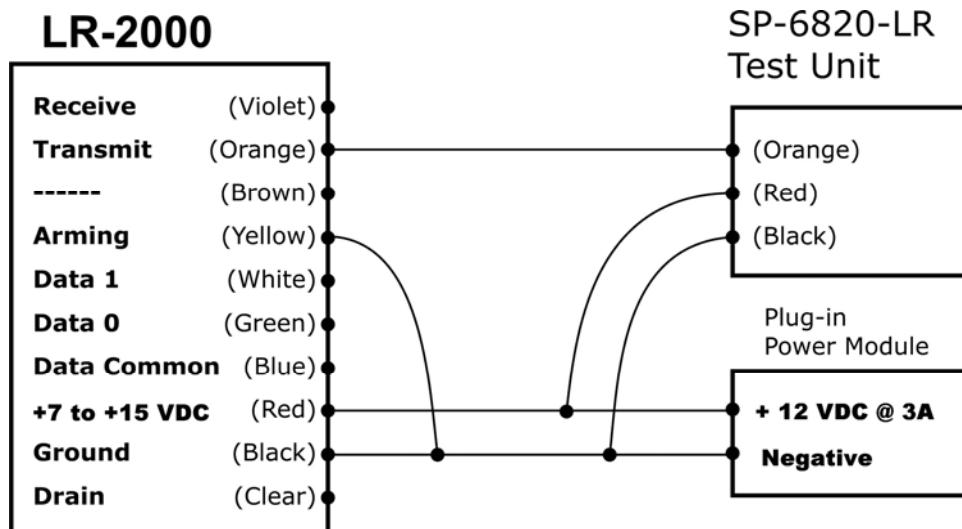

Figure 2. Wiring for quick test.
- Wiring diagram, Figure 2 (below)
- Connect the wires as shown in the wiring diagram, Figure 2 (below).
This step should be taken before the credentials are installed in or on the vehicles. From the LR-2000KIT Test & Set-up Kit, use the test unit, and one of the hand-held test tags, and the wiring diagram in Figure 2 on page 6. The reader does not have to be interfaced with the host system (but they *may* be connected together). Use the DC power module from the LR-2000KIT Test & Set-up Kit *only* if the independent DC power supply is not yet connected.